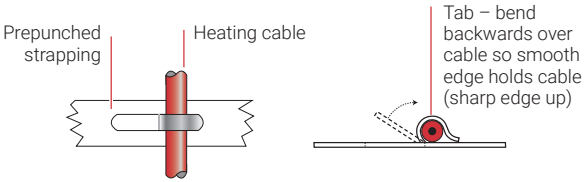
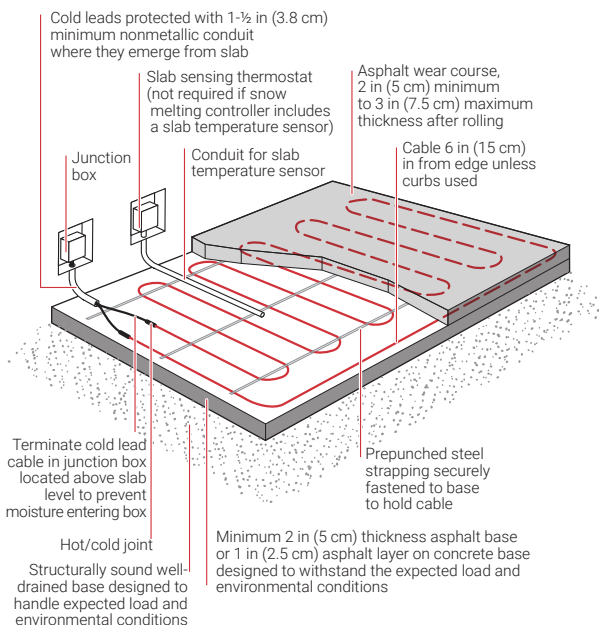

Figure 12: Method of bending tabs on prepunched strapping
Figure 18: Asphalt installation
When the heating cables are fastened to a solid base, such as a two-pour concrete or asphalt installation, use prepunched strapping spaced 3 to 4 ft (90 to 122 cm) apart to maintain the cable spacing. The tabs on the strapping should be bent backwards over the cable as shown in Figure 12.
**Two-pour:** Lay out the heating cable in a serpentine pattern and fasten the cable to the prepunched strapping (or mesh if a waterproofing membrane was installed), at the predetermined spacing, ensuring the watt density is as specified in the design requirements (see Section 2.10). It is recommended that the tabs on the prepunched strapping be bent backwards over the cable as shown in Figure 12. Typical cable spacing ranges between 3 in (7.5 cm) minimum to 10 in (25 cm) maximum on
4. Install prepunched strapping at 3 to 4 ft (0.9 to 1.2 m) intervals, with additional runs where required, to hold cable loops securely (see Figure 18). Anchor the strapping to the asphalt base using an appropriate fastening method.
5. Lay out the heating cable in a serpentine pattern and fasten the cable to the prepunched strapping, at the predetermined spacing, ensuring the watt density is as specified in the design requirements (see Section 2.10). It is recommended that the tabs on the prepunched strapping be bent backwards over the cable as shown in Figure 12 as the sharp edges can cut into the jacket when the hot asphalt is placed. Typical cable spacing ranges between 3 in (7.5 cm) minimum to 6 in (15 cm) maximum on centers. For sloping ramps, such as a ramp to an underground parking garage, serpentine the cables across the width of the ramp to improve snow melting effectiveness. Stay at least 6 in (15 cm) from edges and outer walls (see Figure 18 for details).
6. Install hot/cold joints so that they are at least 6 in (15 cm) in from the edge of the paved area, ensuring that they will be completely embedded in the asphalt (see Section 2.6). Protect the cold leads with nonmetallic conduit where they emerge from the asphalt (see Figure 18 and Section 4 for details).